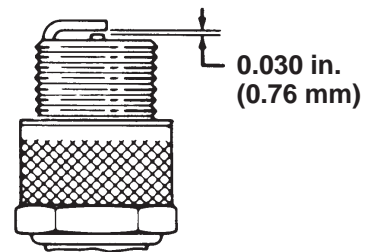

Figure 47
4. Set the air gap between the center and side of the electrodes at 0.030 in. (0.76 mm) (Fig. 47) Install the correctly gapped spark plug w/gasket seal, and tighten the plug to 200 in.-lb. (23 N·m). If a torque wrench is not used, tighten the plug firmly.